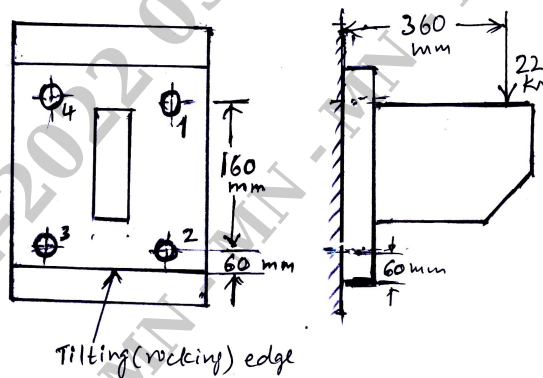

Fig.Q9(c)
- c. A bracket is bolted as shown in Fig.Q9(c). All the bolts are of same size and are made of steel having allowable tensile stress of 90 MPa and allowable shear stress of 52 MPa. Determine the size of the bolts to be used.